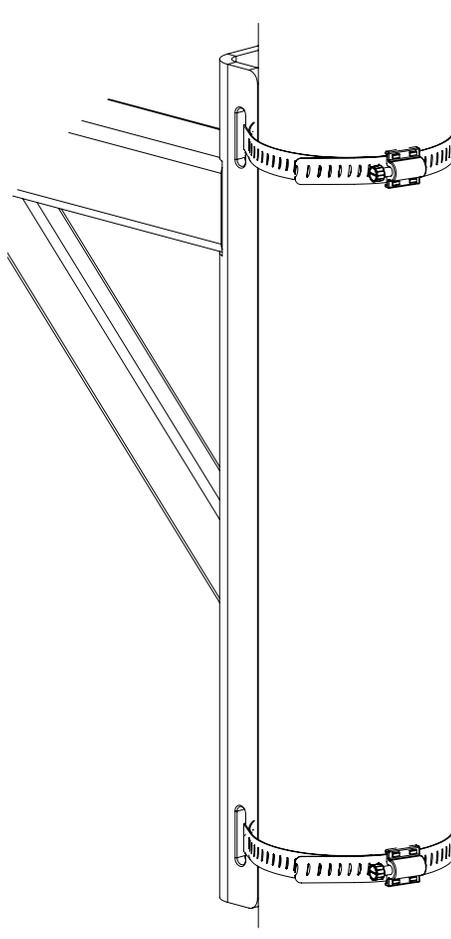

Figure 4
Step 4: Repeat steps 1 to 3 for the lower banding strap assembly (*Figure 4*).